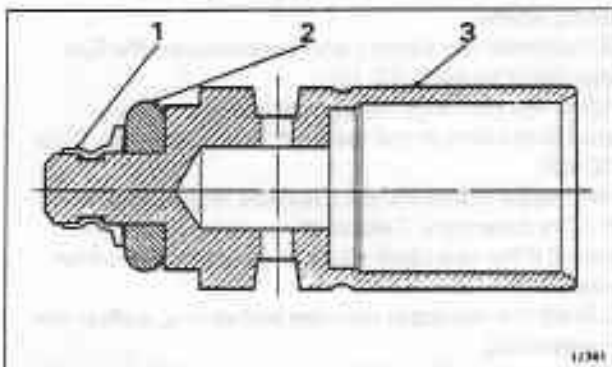

Fig. B2-44 Regulating plunger sealing ring
6. To fit a new 'O' ring (see fig. B2-44) commence by cutting off the old ring with a very sharp blade. Do not